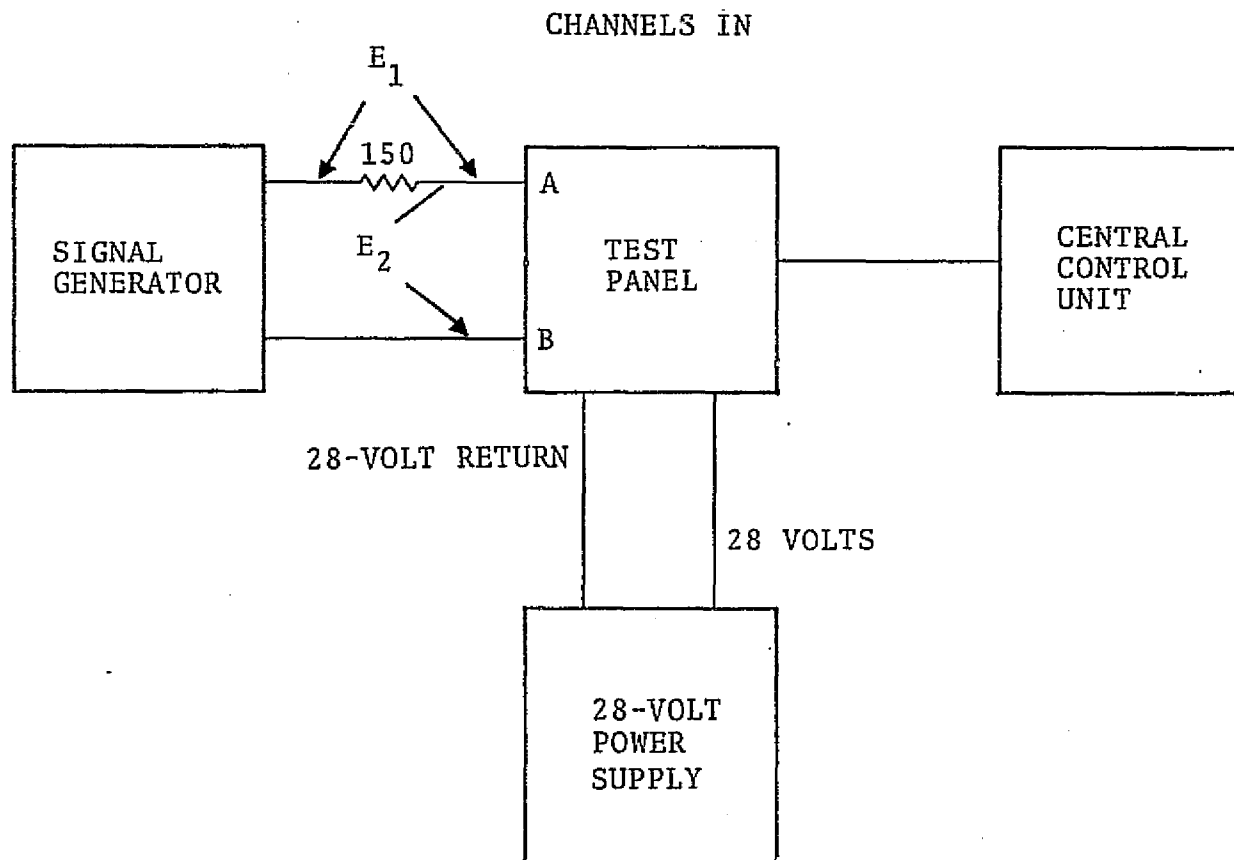

Figure 5-4. — Receive section input impedance test setup.
1. Connect the equipment as shown in figure 5-4 starting with the channel 1 input. Set the input loading switches on the test panel to the LOAD position.